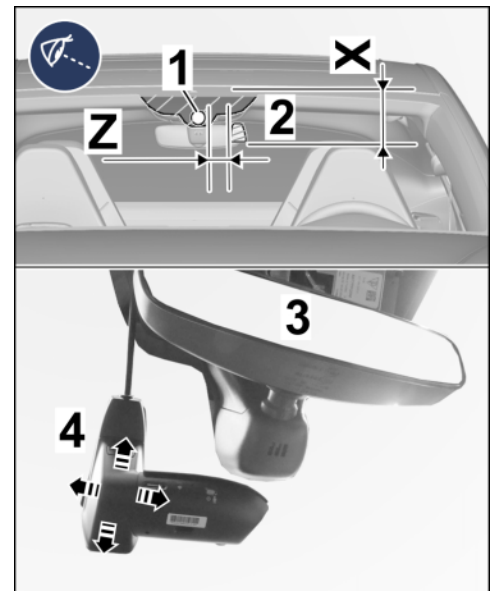

Figure 8
2.1.3 Copy dimensions X and Z on the windshield (⇒ *Figure 8-top-*).
2.1.4 Position front camera with retainer plate in the vehicle at the marking on the windshield (⇒ *Figure 8 -Arrows-*).